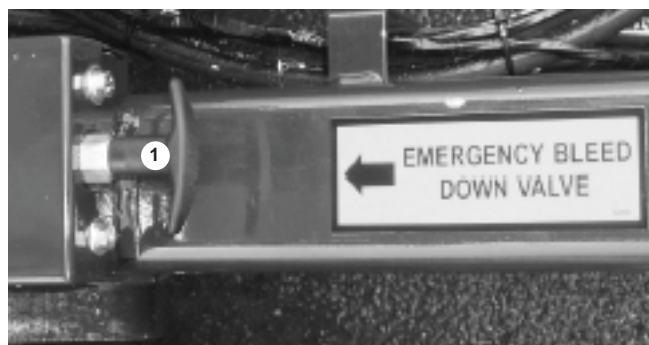

Figure 7.29 - Emergency Lowering
Operate the emergency lower by pulling on the cable (1) (see figure 7.29) located at the front of the chassis. When the platform is fully lowered release the cable.